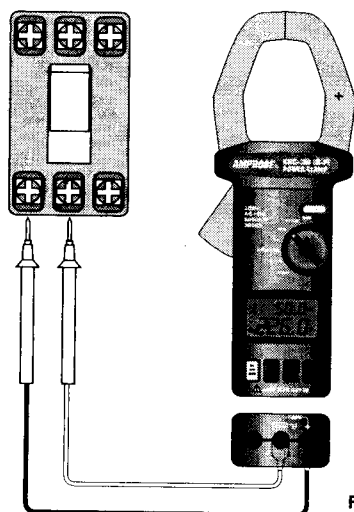

Fig. 3
1. Set the rotary switch at HzV (refer to figure 3).